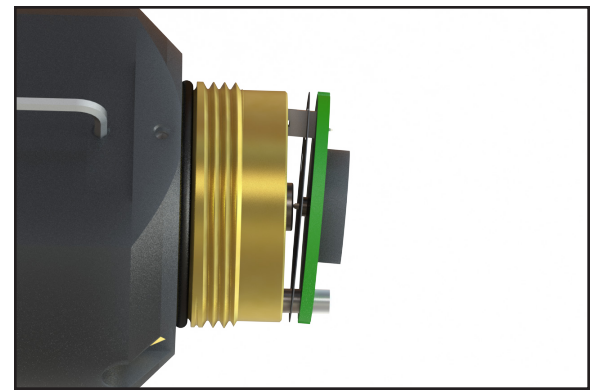

Figure 5: Tilt Circuit Board
9. Angle the circuit board down slightly on the post side, as shown in Figure 5. The tension will keep the battery from pushing it off.